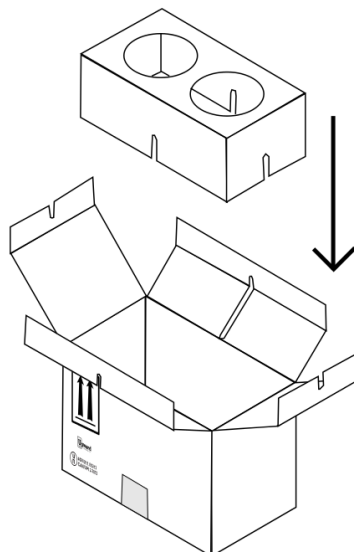

Figure 3
3. Fold down the flaps of the insert and place the insert into the box. (See Figure 3)